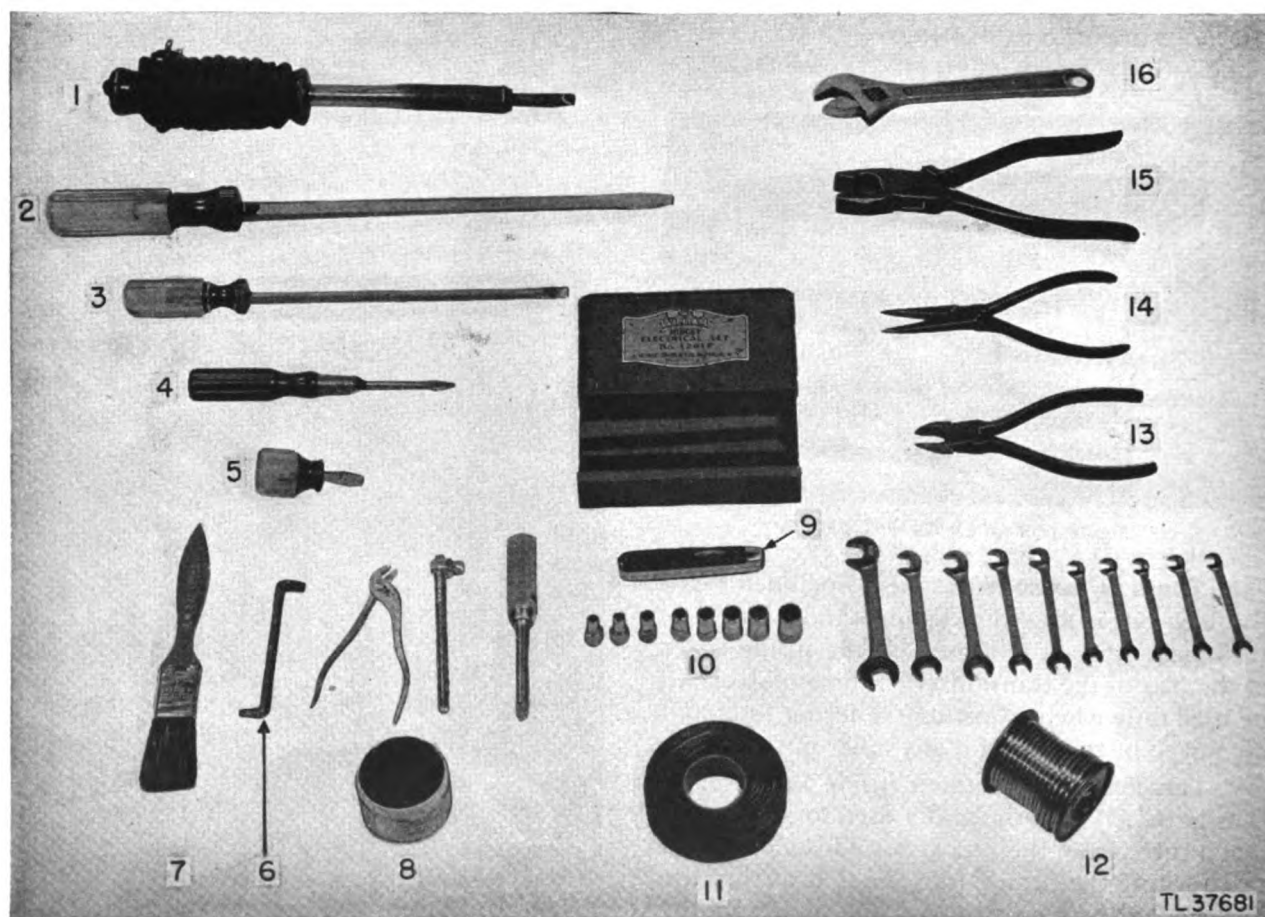

Figure 4. Group of tools from Radio Sets SCR-270 and SCR-271 tool kit.
b. The additional tools listed below will be needed to service and maintain the RC-150, and will be found in the tool kits of Radio Sets SCR-270 and SCR-271 (fig. 4):
- (1) Soldering iron, 100-watt, 3/8-inch tip, 120-volt.
- (2) Screw driver, 12-inch blade, insulated handle.
- (3) Screw driver, 8-inch blade, insulated handle.
- (4) Screw driver, 2 1/2-inch blade, insulated handle.
- (5) Screw driver, 1-inch blade, stubby.
- (6) Screw driver, offset, 9/32-inch tip.
- (7) Paint brush, 1 inch wide.
- (8) Soldering paste, 2-ounce can.
- (9) Knife, electrician's.
- (10) Wrenches, midget set.